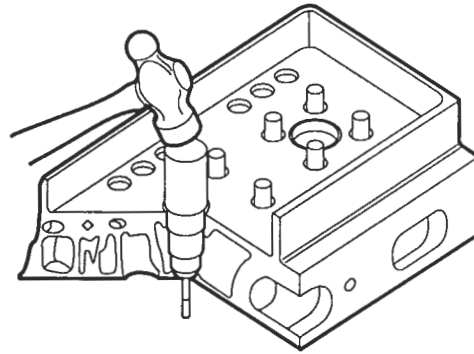

Figure 3. Install Injector Tubes with Tools J 5286-4C and J 5286-5
3. Slip the injector tube into the injector bore and drive it in place (Figure 3.) Sealing is accomplished between the head counterbore (inside diameter) and outside diameter of the injector tube. The tube flange is merely used to retain the seal ring.